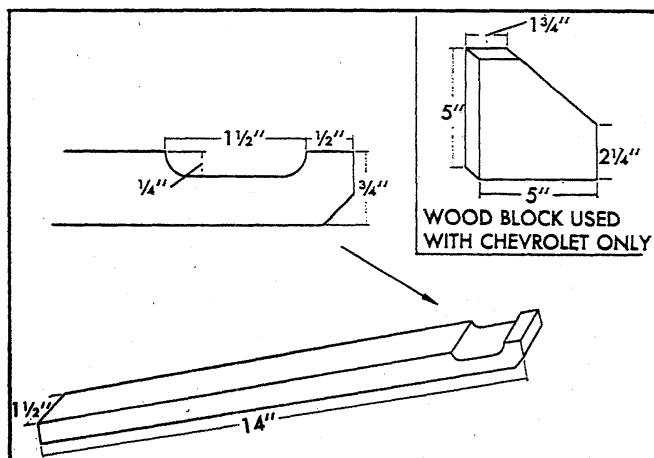
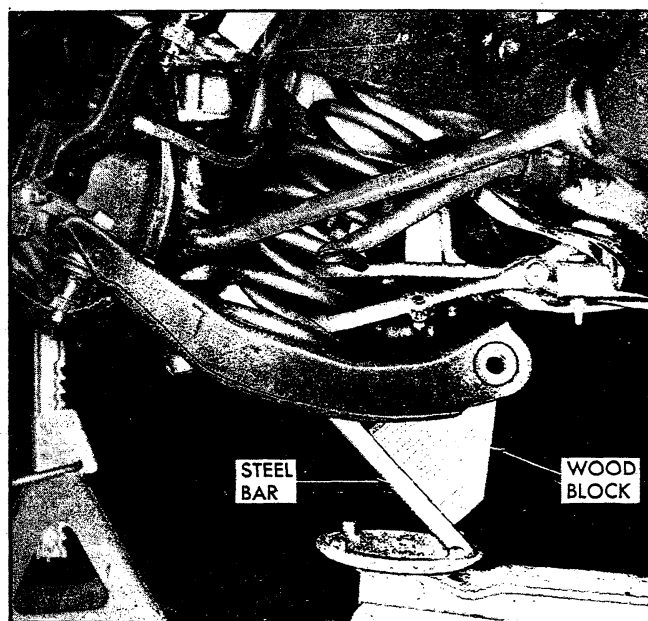

Fig. 19 - Spring Removal Tools - Chevrolet, Chevelle and Camaro
Fig. 20 - Front Spring Removal - Chevrolet
4. Install a steel bar (fabricated as shown in Figure 19) through the shock absorber mounting hole in the lower control arm so that the notch seats over the bottom spring coil and the bar extends inboard and under the inner bushing. Fit a 5" wood block (See Figure 19) between the bar and the bushing as shown in Figure 20.
3. Install the steel bar and wood block as shown in Figure 20 and lift the control arm up until the inner pivot cam bolt can be installed.
3. Place a steel bar (fabricated as shown in Figure 19) through the shock absorber mounting hole in the lower control arm so that the notch seats over the bottom spring coil and the bar extends outboard beyond the end of the control arm and slightly toward the front of the car.